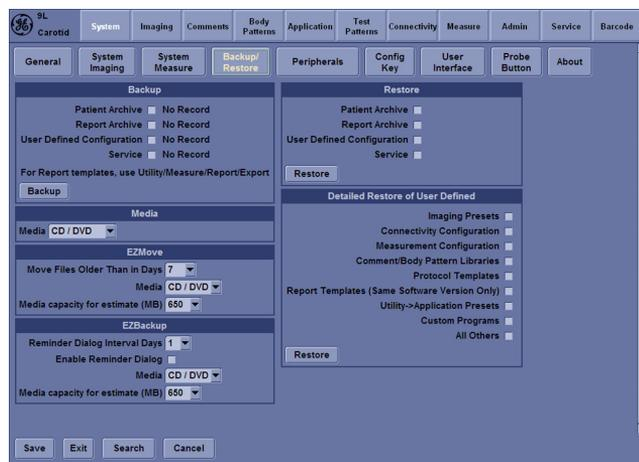

Figure 4-6. Backup Sheet
2. Access to Utility->System->Backup/Restore. The Restore sheet will be shown on the LCD display. See Figure 4-6 on page 4-13.